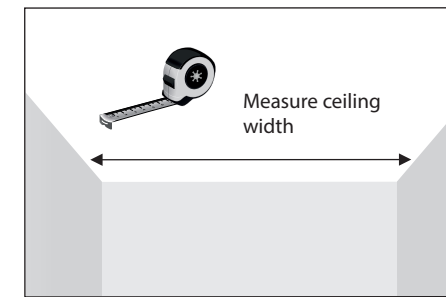
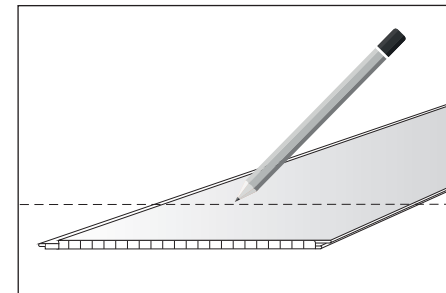

Fig.7
Fig.8
- Measure the length of your ceiling using a tape measure. Transfer this size to the panel, making a straight line across it with your pencil. (Fig.7 & Fig.8)